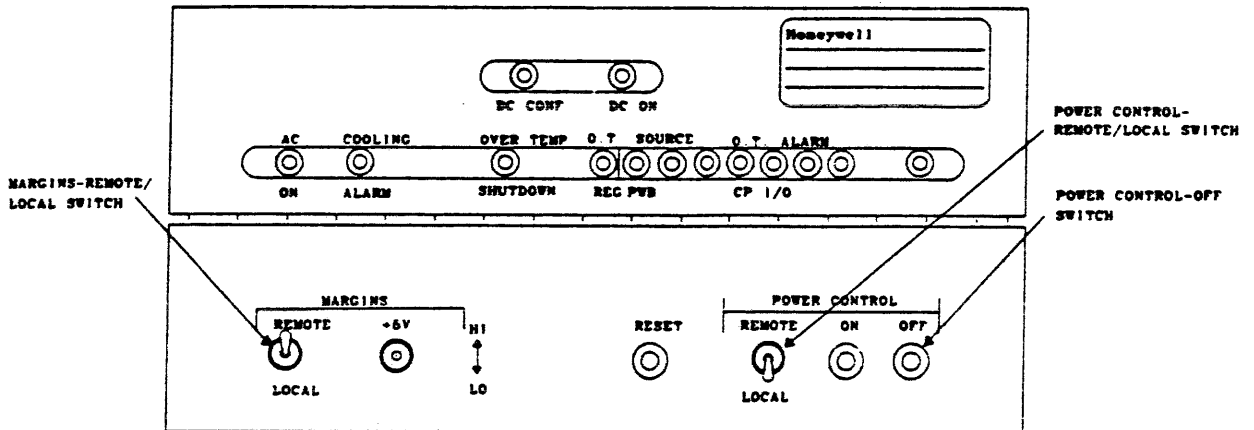

FIGURE 4-4. POWER CONTROL MODULE AT VC1
3. Verify that the Power Control Module (located at VC1) POWER CONTROL-REMOTE/LOCAL switch is in the LOCAL position and depress the POWER CONTROL-OFF switch. Also ensure that the MARGINS-REMOTE/LOCAL switch is in the REMOTE position. See Figure 4-4.